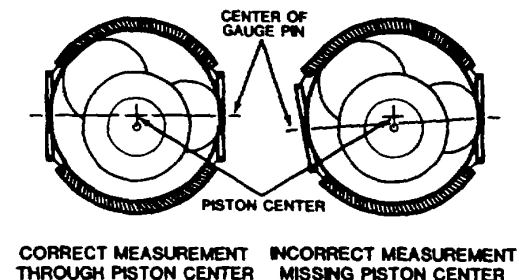

Figure 72.
- b. Place a 4-5 in. outside micrometer over gauge pins and take reading across the diameter the piston (widest point through piston center.) Figure 72.